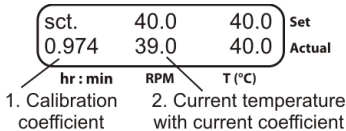

Fig. 5. Control panel in calibration mode
- 6.4.6. Using the **▲** and **▼ T, °C** keys, change the calibration coefficient (fig. 5/1) so that the new temperature value (fig. 5/2) corresponds to the independent sensor temperature. In our example, the calibration coefficient will be 0.974.